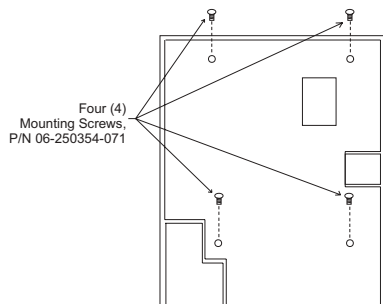

Figure 1. Dead Front Enclosure
- * An optional dead-front enclosure (P/N 06-235500-001) is available (mandatory for use in Canada). The dead front protects the user from access to any exposed wiring. See Figure 1 for installation.